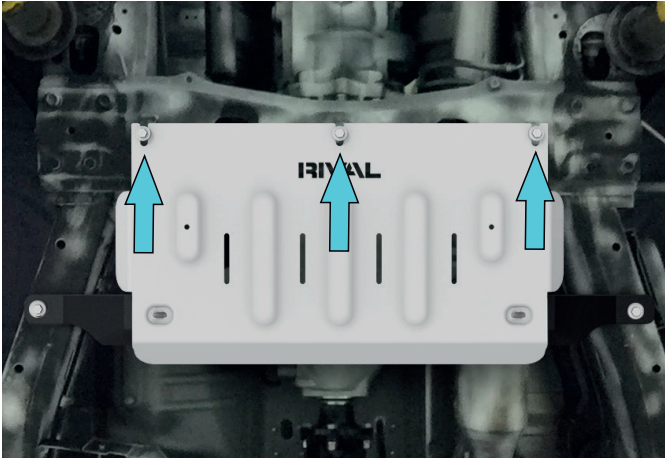

Fig. 3.1
3.1 If RIVAL transmission skid plate is NOT installed: Slide the skid plate (item 1) on the front bolts from step 2 as shown in fig. 3.1.